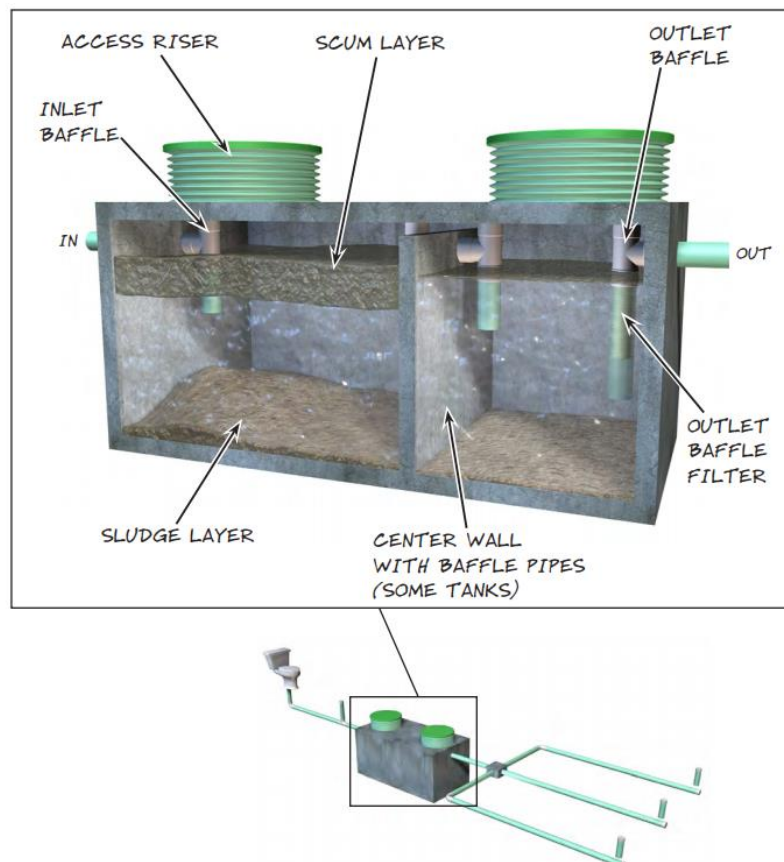

Figure 1: Septic Tank Detail (Source: <https://www.doh.wa.gov/Portals/1/Documents/Pubs/337-122.pdf>)
- Septic tanks shall be level and utilize inlet baffles with an effluent filter placed on the outlet line to the drainfield (Figure 1).